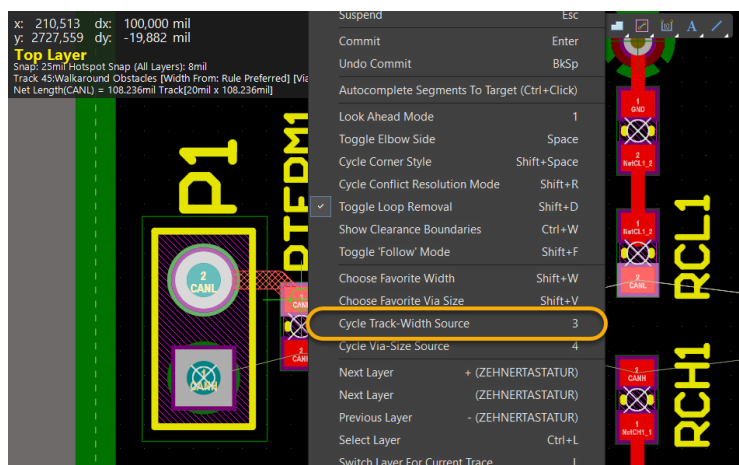

Figure 10. Next available option or shortcut from the Tilde menu
- a) Hit the **~ tilde key** (US) or **Shift+F1** for other regions, to access all of the available shortcuts and commands while in this mode. Notice that 3 is the hotkey to cycle track-width source of this route as shown in Figure 10.